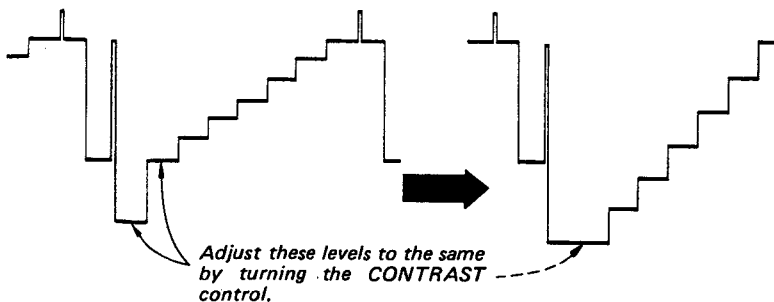

Fig. 5-140.
8. Connect the probe to TP3. Preset the BRIGHTNESS control, and disconnect the 75Ω terminator. Turn the CONTRAST control so that the 100% white level coincides with the next white level. (See Fig. 5-140.)